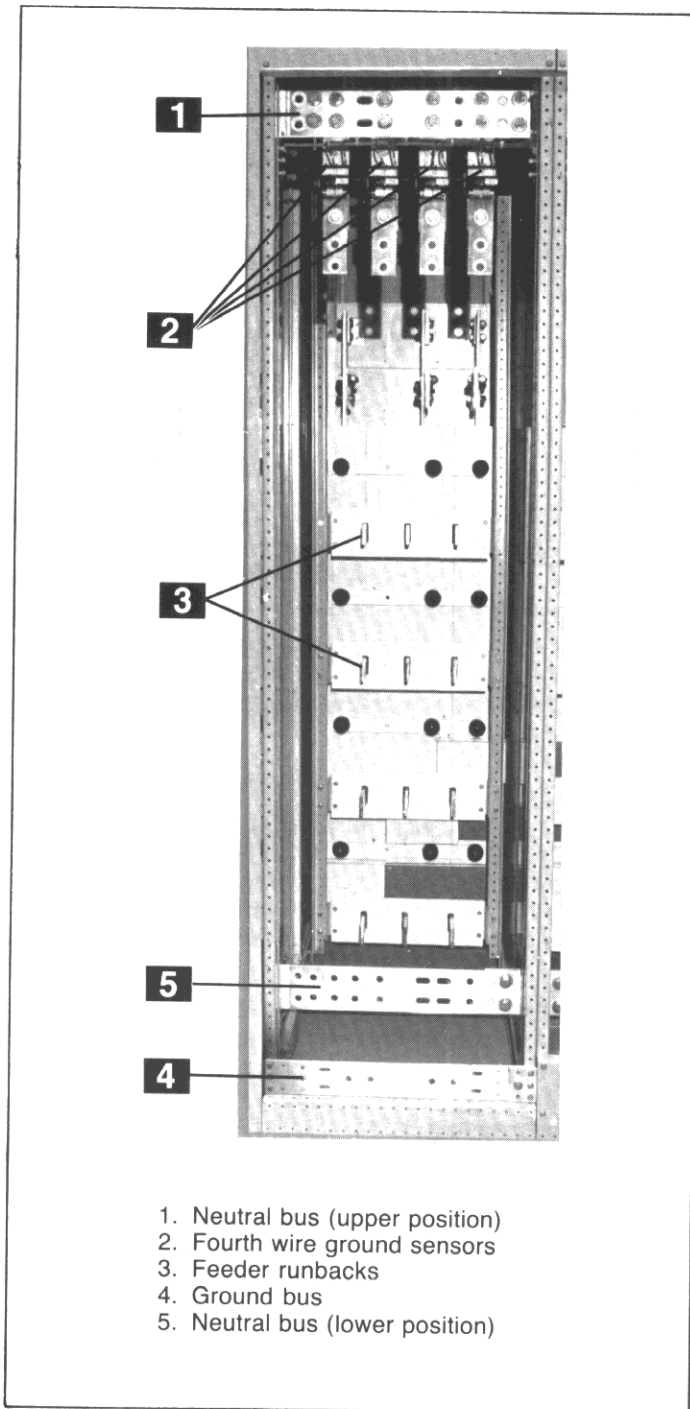

Fig. 3-30. Cable termination compartment
A neutral bus, insulated from ground, is provided in the bus area on switchgear designed for four-wire systems. As shown in Fig. 3-30, the neutral bus (1) is located near the top of the cable compartment. It includes provisions for terminating the neutral conductor of four-wire feeder cables and also direct mounting of the neutral CT as required for those feeder system circuit breakers having an integral ground-fault trip function.
All General Electric AKD-8 switchgear sections are grounded to the internal equipment ground bus (4), Fig. 3-30, located at the bottom of the cable compartment.